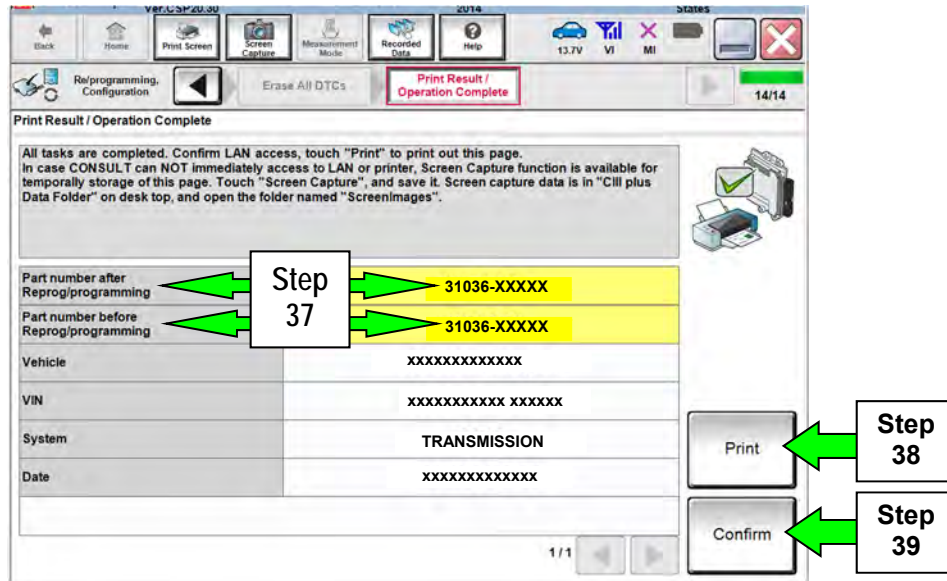

Figure 22
36. When the entire reprogramming process is complete, the screen in Figure 22 will display.
38. Print a copy of this screen (Figure 22) and attach it to the repair order for warranty documentation.